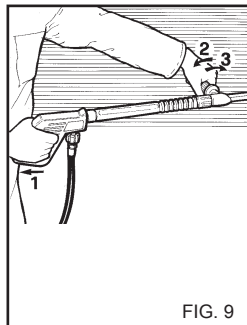

FIG. 9
**USE OF THE DOUBLE LANCE (fig. 9)**